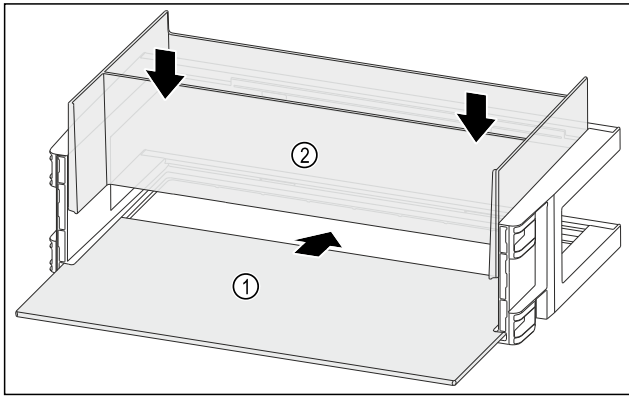

Fig. 97
- Push the shelf Fig. 97 (1) into the side recesses.
- Insert the organiser Fig. 97 (2).